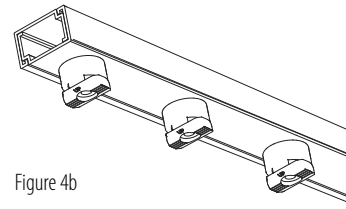

Figure 4b
- b. Ensure Quick Lock connectors are in the same orientation that the sticks will be positioned. (Figure 4b)